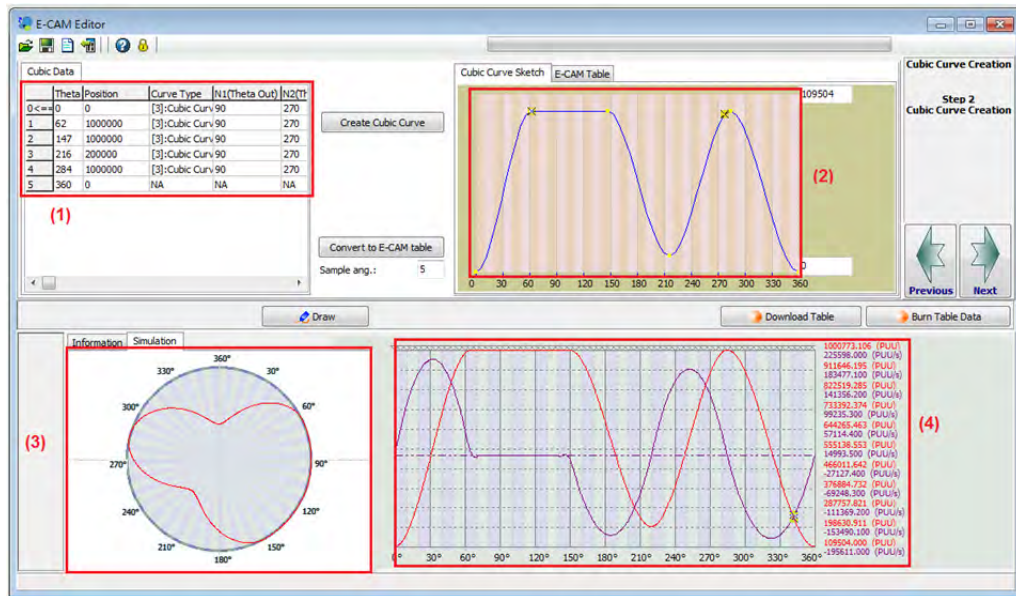

Figure 2.38 Screen of Cubic Curve Creation
Figure 2.38 shows the screen of *Cubic Curve Creation*. Section (1) includes the angle of each point (0° ~ 360°), *Position* (unit: PUU), *Curve Type* (constant line, constant acceleration, and cubic curve), *N1 Theta Out* (arriving angle), and *N2 Theta In* (departing angle). To modify the corresponding data of each point, users may drag the point in section (2) or by directly selecting or entering the value in section (1).